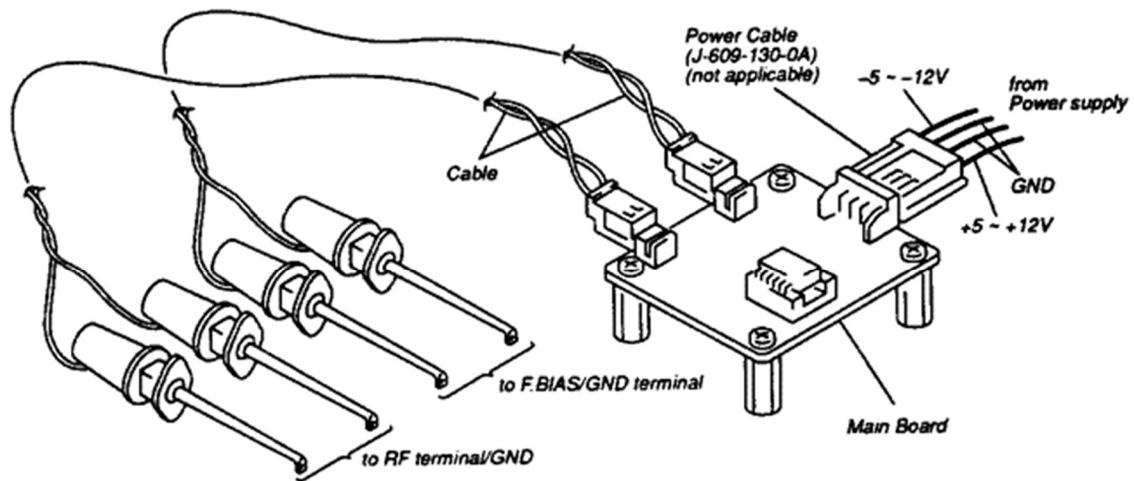

Fig. 2-2-3 RF Buffer Board
(1) Configuration (Refer to Fig. 2-2-3)